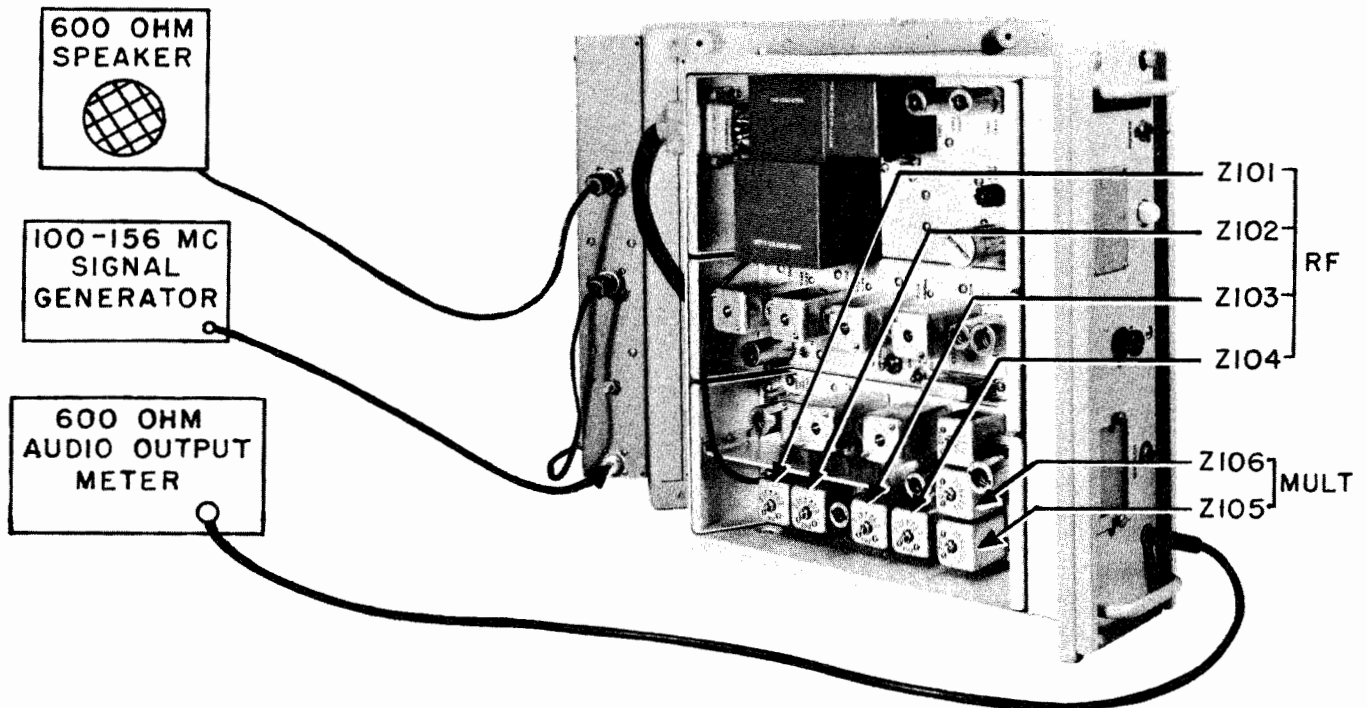

Figure 7-8. Alignment Set-up, RF and Multiplier
- (5) Align multiplier, RF stages. (See figure 7-8.)
(1) Connect the receiver, high frequency signal generator, and audio output meter as indicated in figure 7-8 and proceed with alignment as outlined in table 7-6.
(2) Each time the channel frequency is changed,